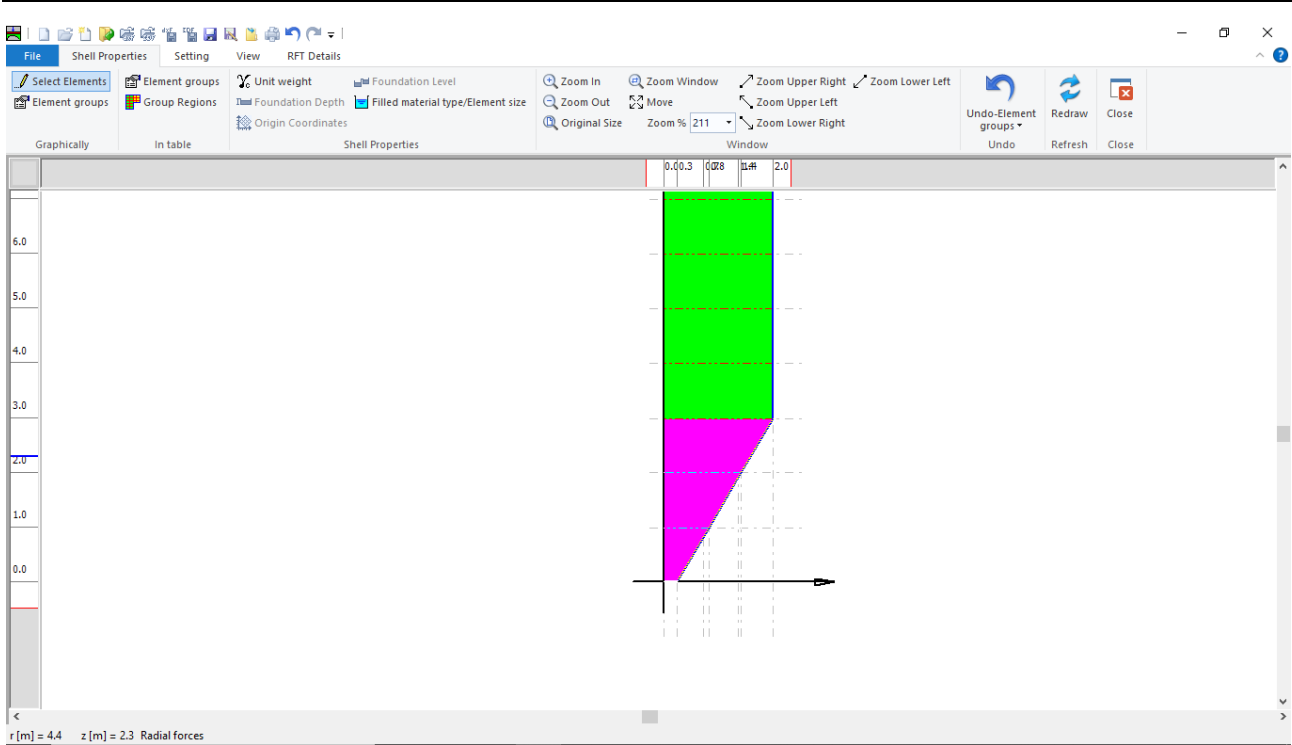

Figure 13.12 Selecting the elements that include the silo hopper
- Select the elements that include the silo hopper as Figure 13.12